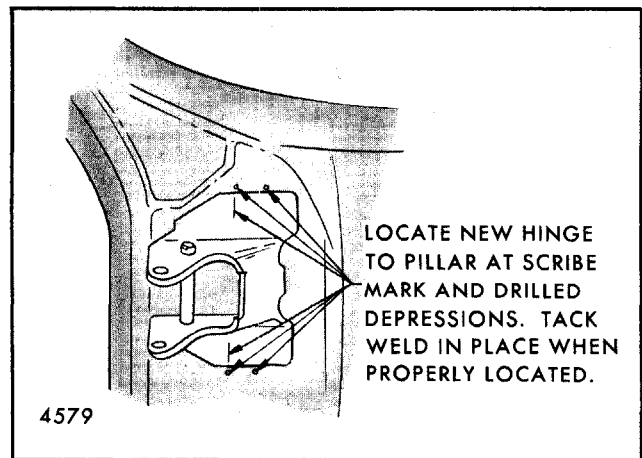

Fig. 5-104-Body Side Hinge Strap Installation - X Styles
2. Locate replacement hinge to scribe marks and drill depressions identifying 1-3/4" dimension (Fig. 5-104). Tack in place with arc weld at upper and lower hinge tabs.